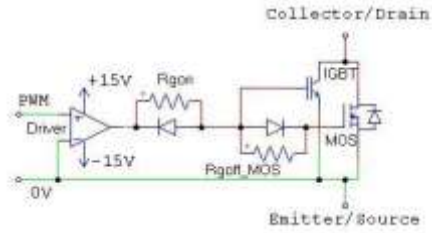

Figure 3
3. Single Gate control using a simple circuit with a fixed delay. If the designer can determine the best delay between the two switches, he can implement this in a discrete fashion. Figure 3 is a typical circuit to accomplish this.